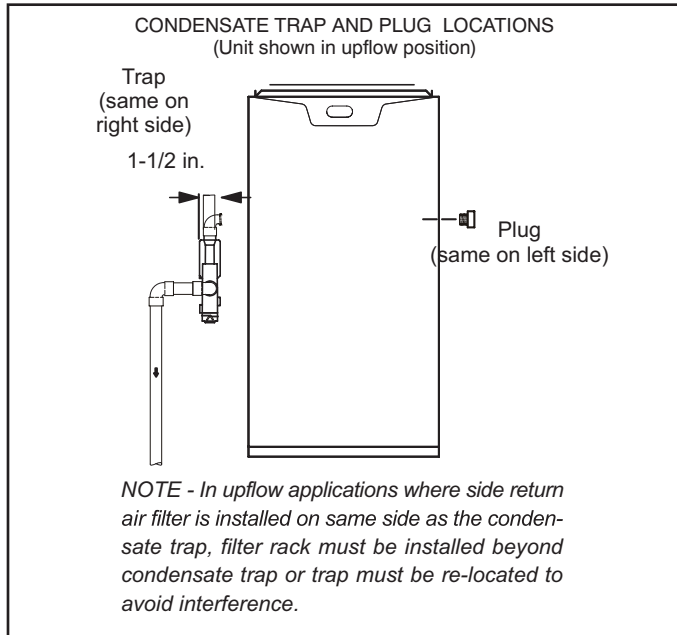
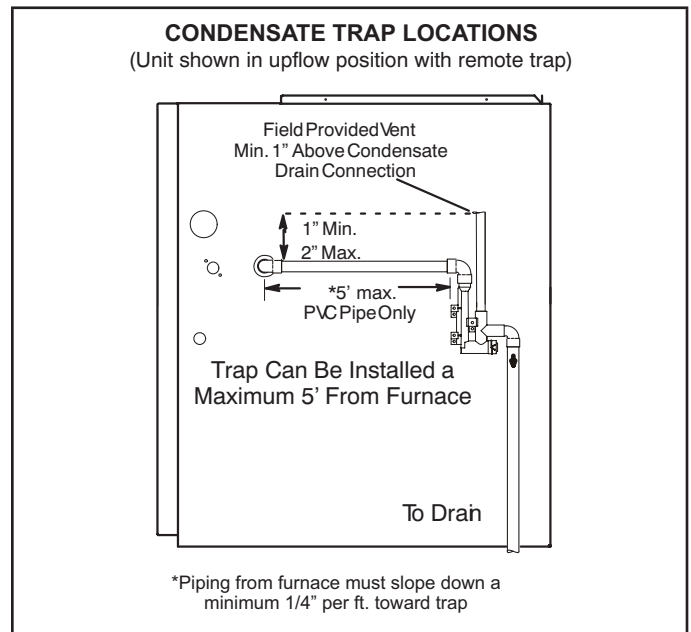
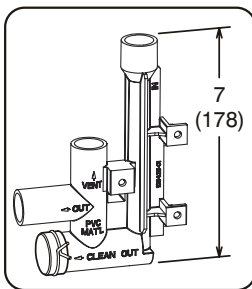

FIGURE 45
FIGURE 47
FIGURE 53
This unit is designed for either right- or left-side exit of condensate piping in upflow applications. In horizontal applications, the condensate trap must extend below the unit. An 8" service clearance is required for the condensate trap. Refer to FIGURE 45 and FIGURE 47 for condensate trap locations. FIGURE 53 (3/4" drain connection) shows a trap assembly using 1/2" PVC or 3/4" PVC.
- 2 - For furnaces with a 1/2" drain connection use a 3/8 allen wrench and remove plug (FIGURE 45) from the cold end header box at the appropriate location on the side of the unit. Install field-provided 1/2 NPT
- 3 - Install the cap over the clean out opening at the base of the trap. Secure with clamp. See FIGURE 53.
- 4 - Install drain trap using appropriate PVC fittings, glue all joints. Glue the provided drain trap as shown in FIGURE 53. Route the condensate line to an open drain. Condensate line must maintain a 1/4" downward slope from the furnace to the drain.